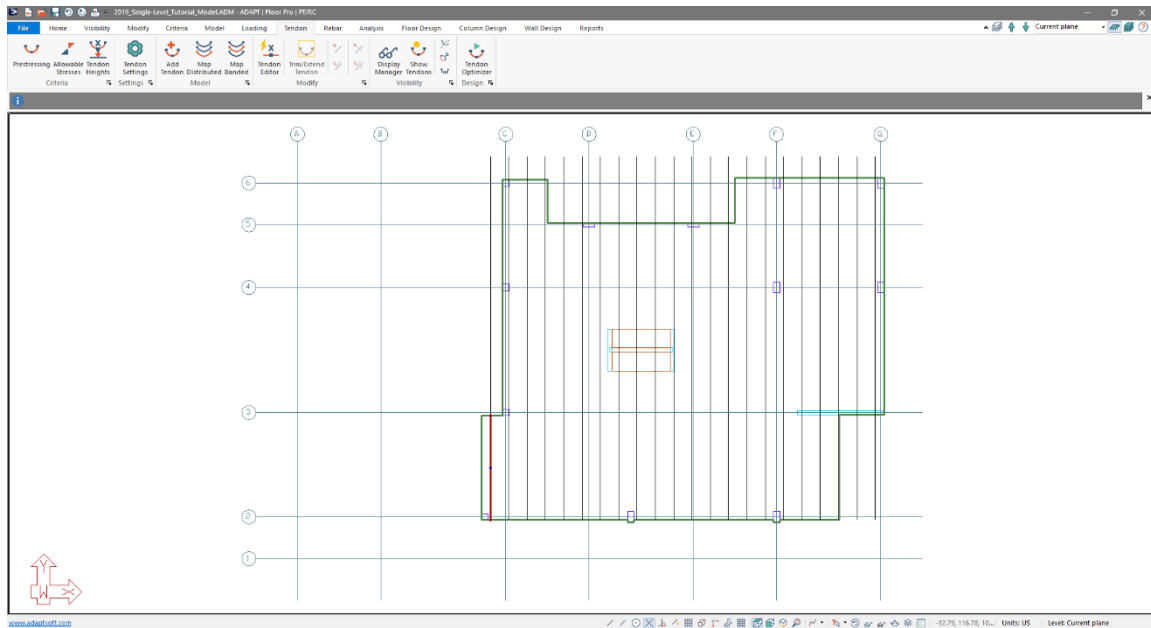

Figure 8-30
- Click on the *Top View*  icon in the **Bottom Quick Access Toolbar**. This will bring you to the view of the model shown in **FIGURE 8-30**. Since this is the only tendon with this length and profile this tendon will not be copied to make other tendons.